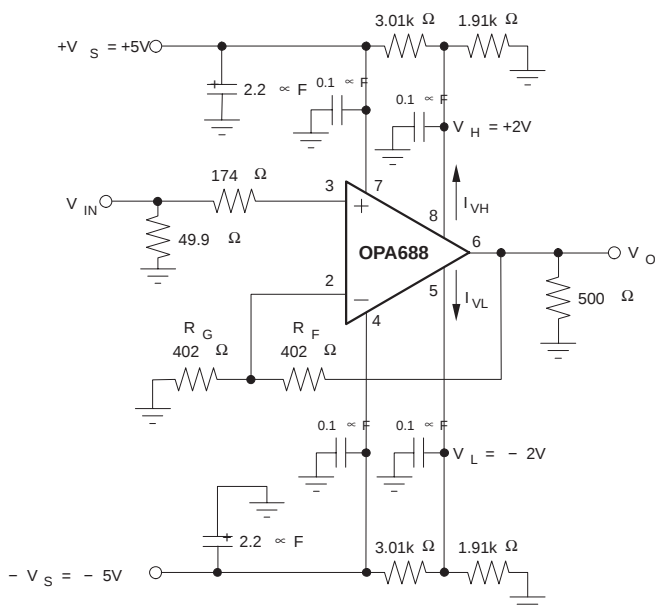
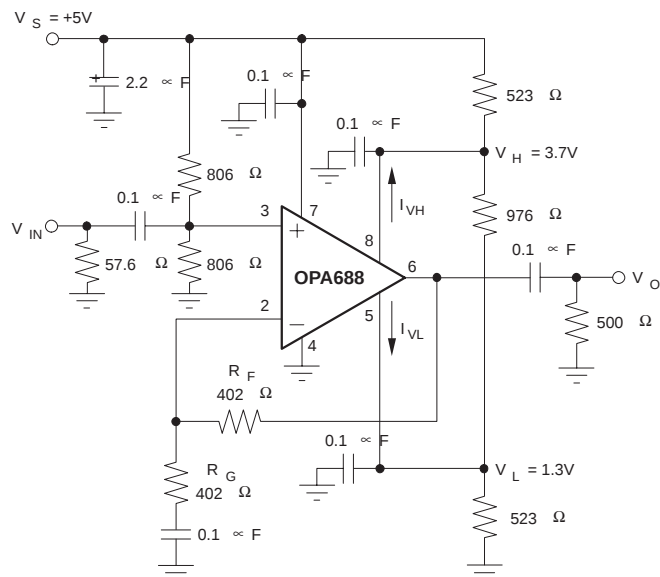
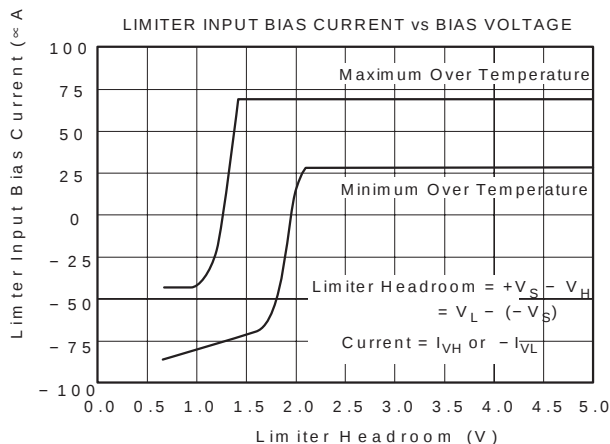

Figure 30. DC-Coupled, Dual Supply Amplifier
Figure 31. AC-Coupled, Single Supply Amplifier
Figure 37. Limiter Bias Current vs Bias Voltage
4. I_{VH} (V_H bias current) is positive, and I_{VL} (V_L bias current) is negative, under these conditions. See Note 3, Figure 31 and Figure 37.
Figure 30 shows a non-inverting gain amplifier for dual-supply operation. This circuit was used for AC characterization of the OPA688, with a 50- Ω source, which it matches, and a 500- Ω load. The power-supply bypass capacitors are shown explicitly in Figures 30 and 31, but will be assumed in the other figures. The limiter voltages (V_H and V_L) and their bias currents (I_{VH} and I_{VL}) have the polarities shown.
Figure 31 shows an AC-coupled, non-inverting gain amplifier for single +5V supply operation. This circuit was used for AC characterization of the OPA688, with a 50W source, which it matches, and a 500- Ω load. The power-supply bypass capacitors are shown explicitly in Figures 30 and 31, but will be assumed in the other figures. The limiter voltages (V_H and V_L) and their bias currents (I_{VH} and I_{VL}) have the polarities shown. Notice that the single-supply circuit can use three resistors to set V_H and V_L , where the dual-supply circuit usually uses four to reference the limit voltages to ground.
The OPA688 is nominally specified for operation using either ± 5 -V supplies or a single +5-V supply. The maximum specified total supply voltage of 12 V allows reasonable tolerances on the supplies. Higher supply voltages can break down internal junctions, possibly leading to catastrophic failure. Single-supply operation is possible as long as common mode voltage constraints are observed. The common mode input and output voltage specifications can be interpreted as a required headroom to the supply voltage. Observing this input and output headroom requirement will allow design of non-standard or single-supply operation circuits. Figure 31 shows one approach to single-supply operation.
When pins 5 and 8 are left open, V_H and V_L go to the Default Voltage Limit; the minimum values are in the Specifications. Looking at Figure 37 for the zero bias current case will show the expected range of $(V_S - \text{default limit voltages}) = \text{headroom}$.
When the limiter voltages are more than 2.1V from the supplies ($V_L > -V_S + 2.1 \text{ V}$ or $V_H < +V_S - 2.1 \text{ V}$), you can use simple resistor dividers to set V_H and V_L (see Figure 30). Make sure you include the Limiter Input Bias Currents (Figure 37) in the calculations (i.e., $I_{VL} \geq -50 \mu\text{A}$ out of pin 5, and $I_{VH} \leq +50 \mu\text{A}$ out of pin 8). For good limiter voltage accuracy, run at least 1-mA quiescent bias current through these resistors.
When the limiter voltages need to be within 2.1V of the supplies ($V_L \leq -V_S + 2.1 \text{ V}$ or $V_H \geq +V_S - 2.1 \text{ V}$), consider using low impedance buffers to set V_H and V_L to minimize errors due to bias current uncertainty. This will typically be the case for single supply operation ($V_S = +5\text{V}$). Figure 31 runs 2.5 mA through the resistive divider that sets V_H and V_L . This keeps errors due to I_{VH} and $I_{VL} < \pm 1\%$ of the target limit voltages.